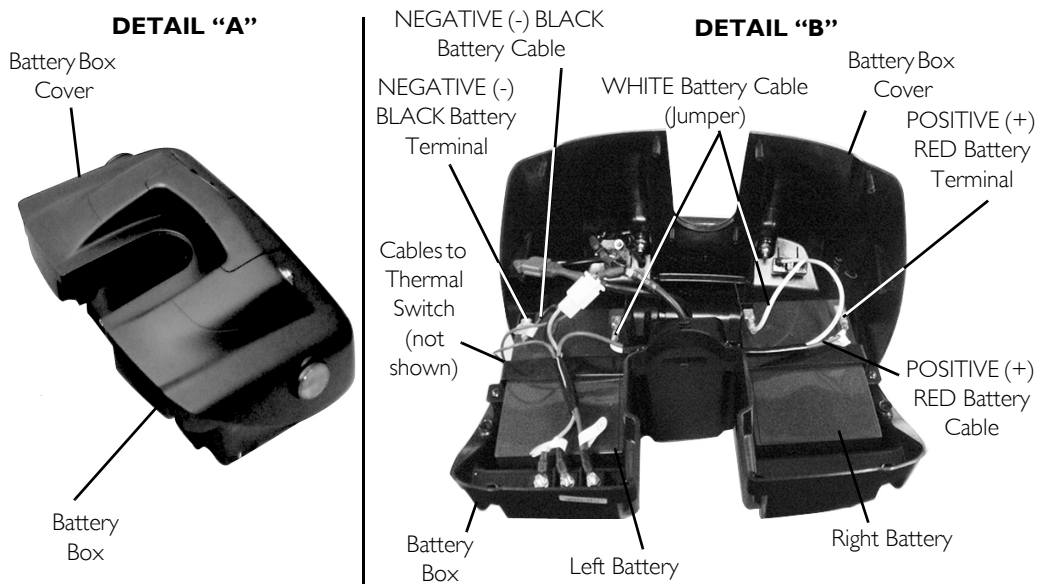

FIGURE 10.3 Removing/Installing the Batteries
When connecting the battery cables to the batteries, the battery cables **MUST** be connected to the battery terminals/posts as shown in FIGURE 10.3 - otherwise damage to the battery may result.
i For this procedure, refer to FIGURE 10.3 on page 41.
3. Remove the twelve mounting screws (not shown) that secure the battery box top to the battery box (Detail "A" of FIGURE 10.3).
4. Disconnect the wiring harness from the batteries by holding the connectors and pulling them in the following order (Detail “B” of FIGURE 10.3):
3. Connect the wiring harness to the batteries in the following order (Detail “B” of FIGURE 10.3):
4. Replace the top of the battery box and secure with the twelve mounting screws (Detail “A” of FIGURE 10.3). Securely tighten.